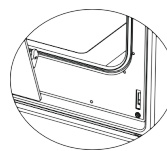

Figure 3.2
6. To easily remove the oven door, when it's almost closed, hold the door in both of your hands and pull it upwards (Figure 3.2).